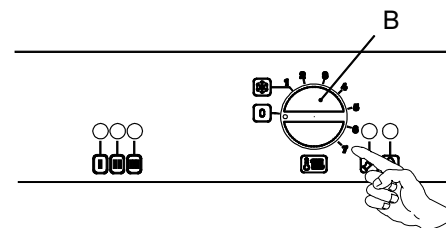

Figure 5.5
- To turn the boiler off set the function selector B to the position shown in the Figure 5.5.